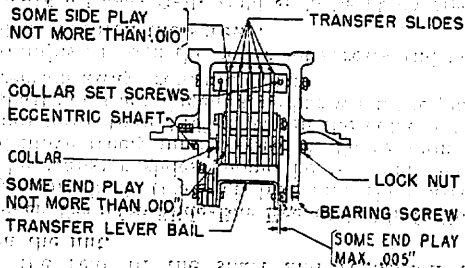

Fig. 58
**2.119 Lower Transfer Slide-Bar Eccentric-Shaft:** (New style bracket) (transfer bail and slide assembly removed). With the transfer-bail spring unhooked and the lower slide-bar eccentric-shaft collars loose on the shaft, the high part of the lower transfer slide-bar eccentric-shaft should extend down. **Fig. 58**
**2.120 Upper Transfer Slide-Bar-Shaft Collars:** (New style bracket) (transfer bail and slide assembly removed). The transfer slides should line up with their associated sensing-contact operating bails and there should be some end play, not more than .010". **Fig. 58**
**2.121 Lower Transfer Slide-Bar Eccentric-Shaft Collars:** (New style bracket) (transfer bail and slide assembly removed). The transfer slide bars should be perpendicular to their shaft, move freely in their guides and there should be some end play, not more than .010" between the collar on the lower eccentric shaft and the adjacent slide bar when the play is taken up in a direction away from the collar. **Fig. 58**
**2.122 Transfer-Lever Bail:** (New style bracket) (transfer bail and slide assembly removed). With the bail spring unhooked, the transfer levers should line up centrally with their associated slide bars and the bail should rotate freely on its bearing screws with some end play. Max. .005". **Fig. 58**